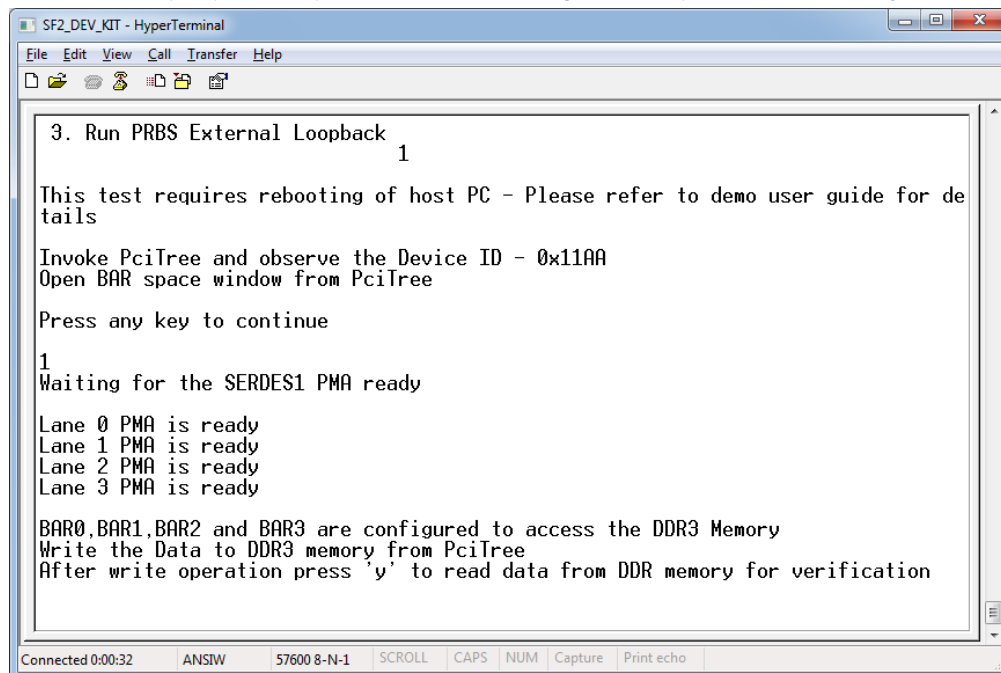

Figure 20. PCIe Test
20. Enter any key in the HyperTerminal. A message is displayed, as shown in Figure 20.